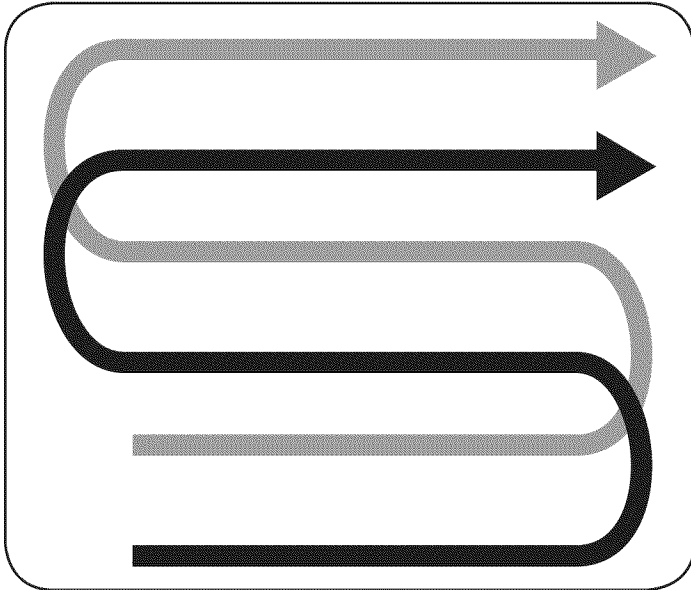

Figure 16
- When preparing a seedbed, go over the same path twice in the first row, then overlap one-half the tiller width on the rest of the passes. See Figure 16.